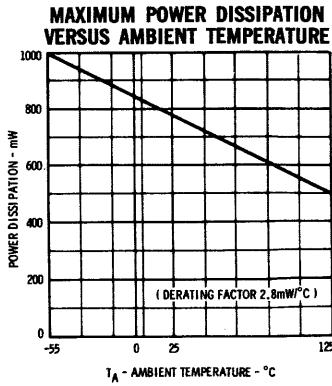

FIGURE 4
- (1) Derating factor as shown in Fig. 4 is $2.8 \text{ mW}/^\circ\text{C}$.